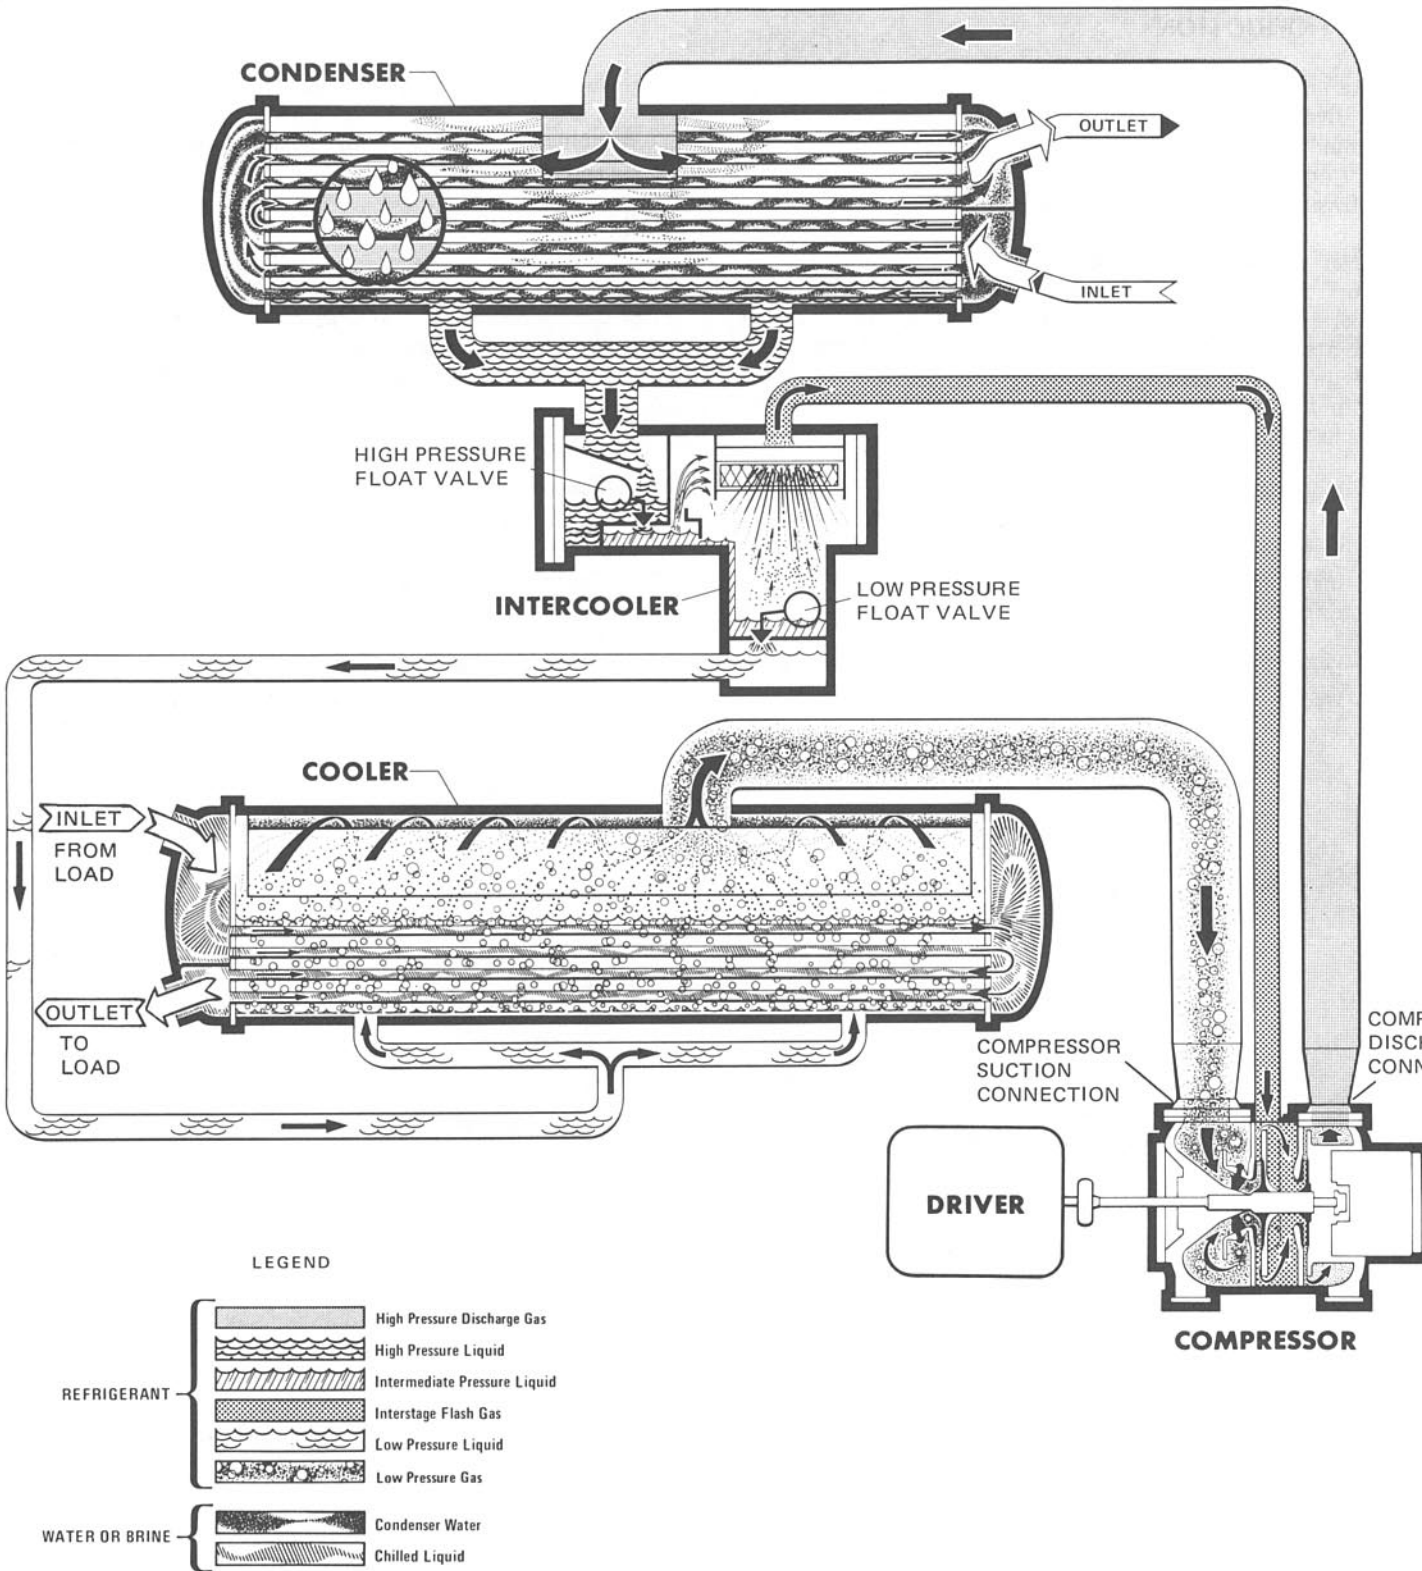

FIG. 1 — REFRIGERANT CYCLE
**REFRIGERANT CYCLE (REFER TO FIGS. 1, 2 & 3)**
In operation, a liquid (water or brine) is chilled as it flows through the cooler, where evaporating refrigerant absorbs heat from the chilled liquid. The chilled liquid is then piped to the load. The warmed liquid is returned to the cooler to complete the chilled liquid circuit. (See Fig. 1.)